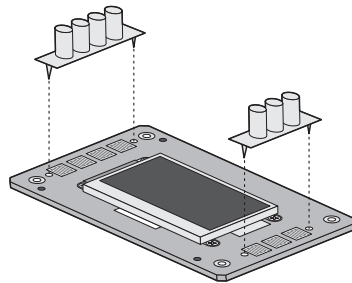

FIGURE 11: Removing/replacing the UIB buttons
- 6 If you are removing the UIB to replace it with a new board, remove the UIB buttons from the old UIB (see Figure 11 on page 32).